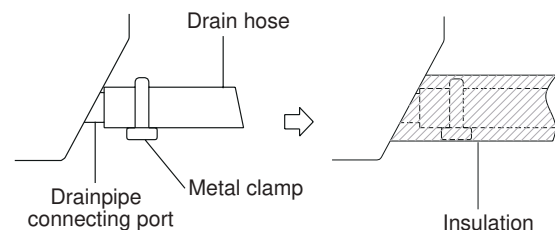

Figure 5.
2. Attach the mouth of the drain hose to the unit's outlet pipe. Sheath the mouth of the hose and clip it firmly with a pipe clamp. See Figure 5.